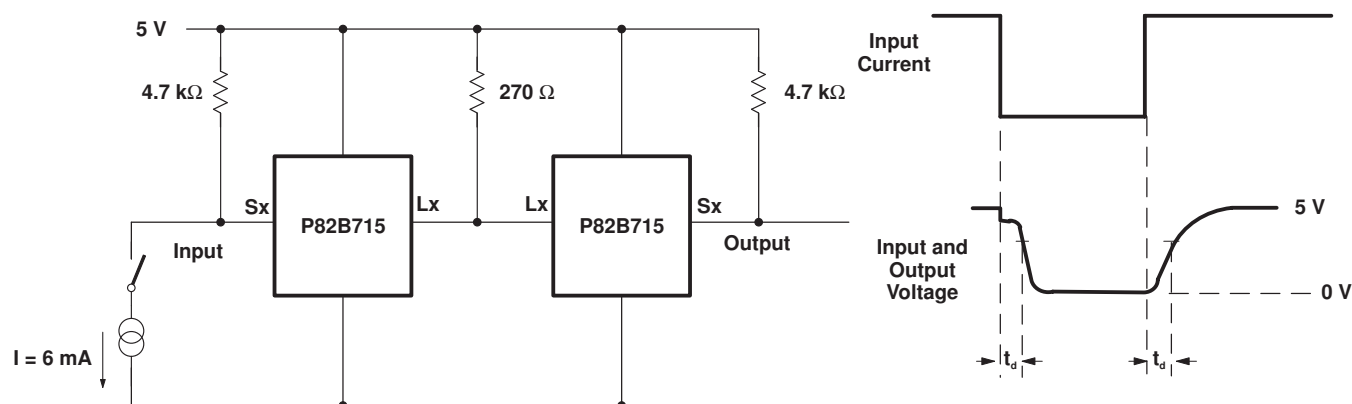

Figure 2. Test Circuit for Delay Times
- (1) A conventional input-output delay is not observed in the S_x/L_x voltage waveforms, because the input and output pins are internally tied with a 30- Ω resistor so they show equal logic voltage levels to within 100 mV. When connected in an I²C system, an S_x/S_y input pin cannot rise/fall until the buffered bus load at the output pin has been driven by the internal amplifier. This test measures the bus propagation delay caused to falling or rising voltages at the L_x/L_y output (as well as the S_x/S_y input) by the amplifier's response time. The figure given is measured with a drive current as shown in Figure 2. Because this is a dynamic bus test in which a corresponding bus driving IC has an output voltage well above 0.4 V, 6 mA is used instead of the static 3 mA.
- (2) The signal path L_x to S_x and L_y to S_y is passive through the internal 30- Ω resistor. There is no amplifier involved and essentially no signal propagation delay.